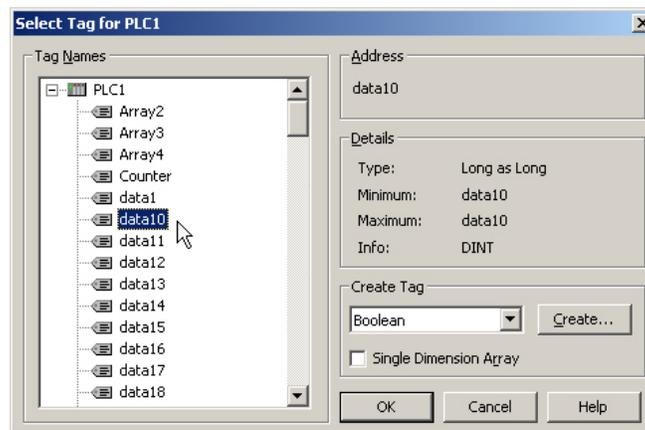

Fig. 9
- In the window that popped up, you can select the PLC tag you wish to map the G3 tag to in the Tag Names list. Fig. 9. This list represents the PLC tags and is loaded when the CSV file is imported.